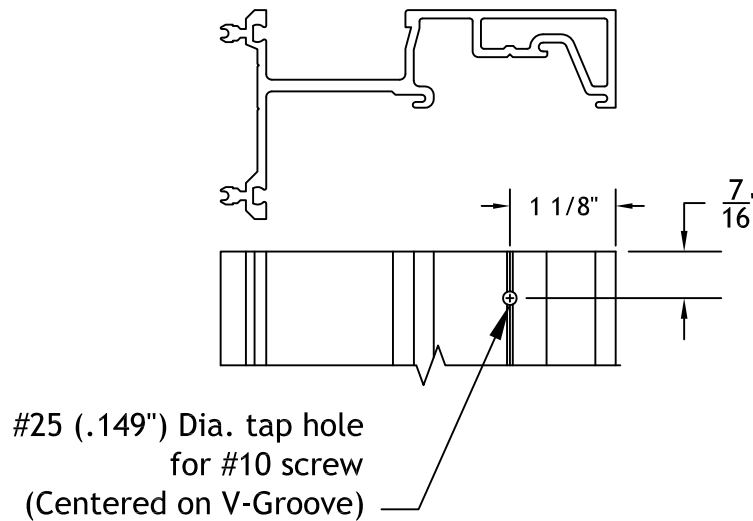

Figure 20
- 4.5 If horizontals are required, fabricate hole on each end of horizontal per FIGURE 20, page 20
- 5.6 Horizontals can be attached either before or after the frame is installed in the opening. Prior to attaching intermediate horizontals, apply sealant to the face of shear block and along outer face of mullion where horizontal will intersect the face. Roll the horizontal over the shear blocks and attach with (1) FS-55 #10 x 1/2" Phillips Pan Head screw. SEE FIGURE 20 & 21.